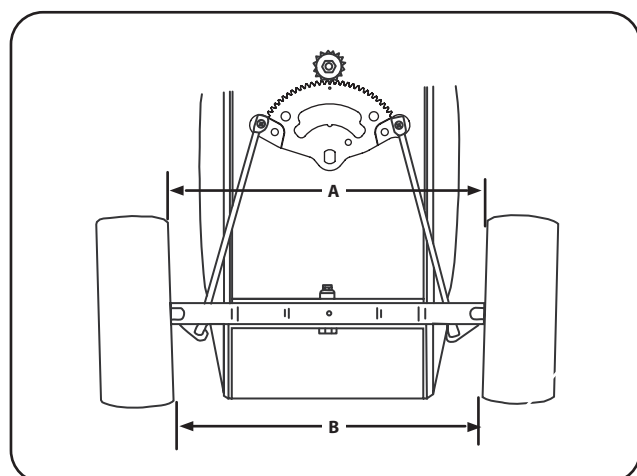

Figure 6A.2
5. In front of the axle, measure the distance (B) horizontally from the inside of the left rim to the inside of the right rim. See Figure 6A.2.
6. From behind the axle, measure the distance (A) horizontally from the inside of the left rim to the inside of the right rim.